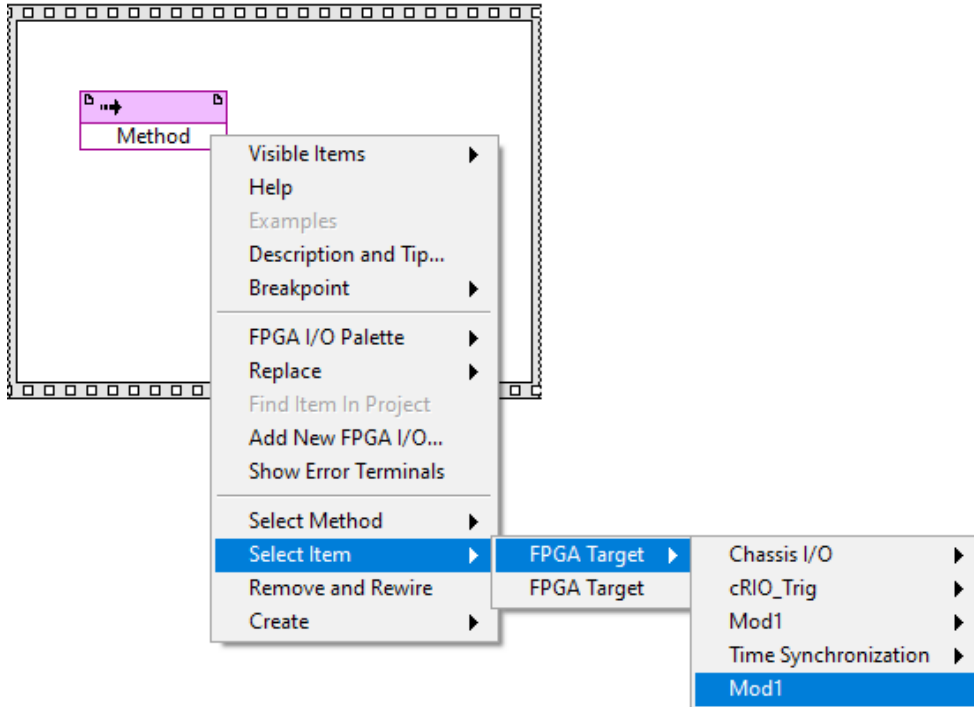

Fig. 5: Quick Start – Select module
- Place a method node from the functions palette (*FPGA I/O* → *I/O Method*) into the *Flat Sequence Structure Frame* (Fig. 5). Afterwards, select e.g. the item *Mod1* (exact naming depends on the cRIO slot used) as shown in figure 5.